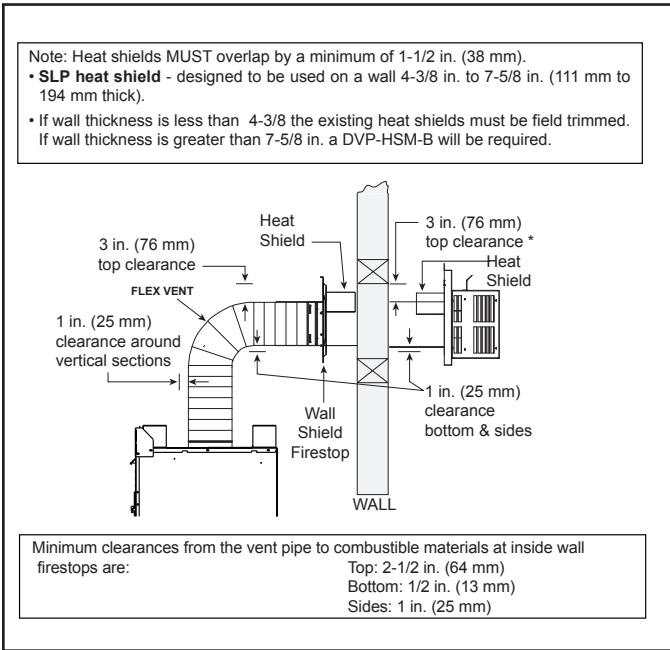
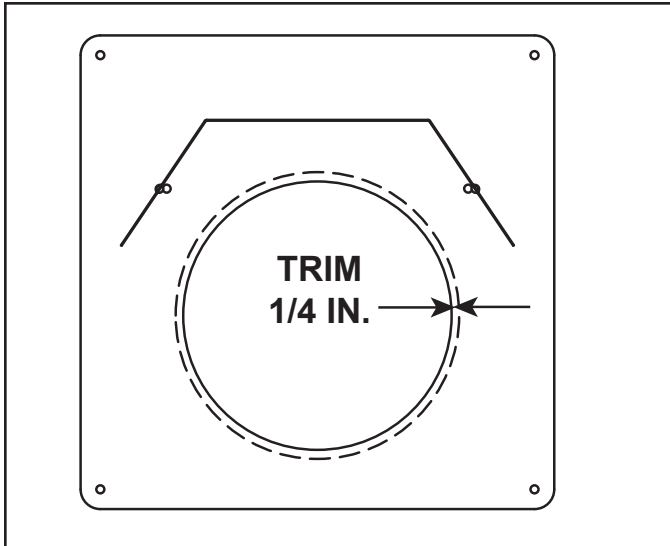

Figure 2. Minimum Vent Pipe Clearances
Figure 3. Trim SLP-WS
There are two sections of the heat shield. One section is factory-attached to the wall shield firestop. The other section is factory-attached to the cap. See Figure 2.
2. Fasten SLP-WS wall shield firestop to the interior side of the 10 in. x 10 in. framed opening. See Figure 2.
11. Install three screws through the connection to ensure it is securely fastened. See Figure 2 and Figure 3.
13. Install the SLP-TRAP2 termination cap to the exterior of the structure. See Section E. In some installations, the flexible vent may need to pass through the SLP-WS wall shield firestop. The flexible vent outside diameter exceeds the diameter of the hole in the SLP-WS. The diameter of the inner hole of the SLP-WS will need to be increased from 6-3/4 inches to 7-1/4 inches. This modification can be made by trimming 1/4 inch evenly around the circumference of the inner hole of the SLP-WS. See Figure 3. This modification is not required in installations where the SLP-TRAP slip section projects through the SLP-WS.